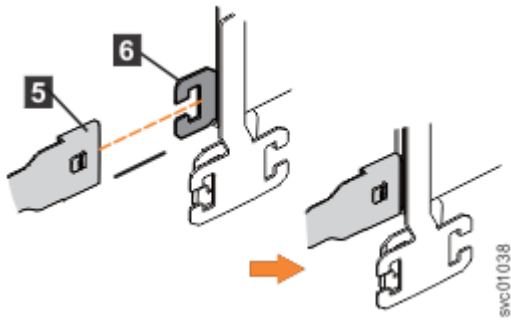

Figure 65. Attach the support rail connector of the upper CMA to the right support rail
4. Attach the support rail connector on the upper CMA assembly (5) to the connector base on the right support rail (6), as shown in Figure 65 on page 60.